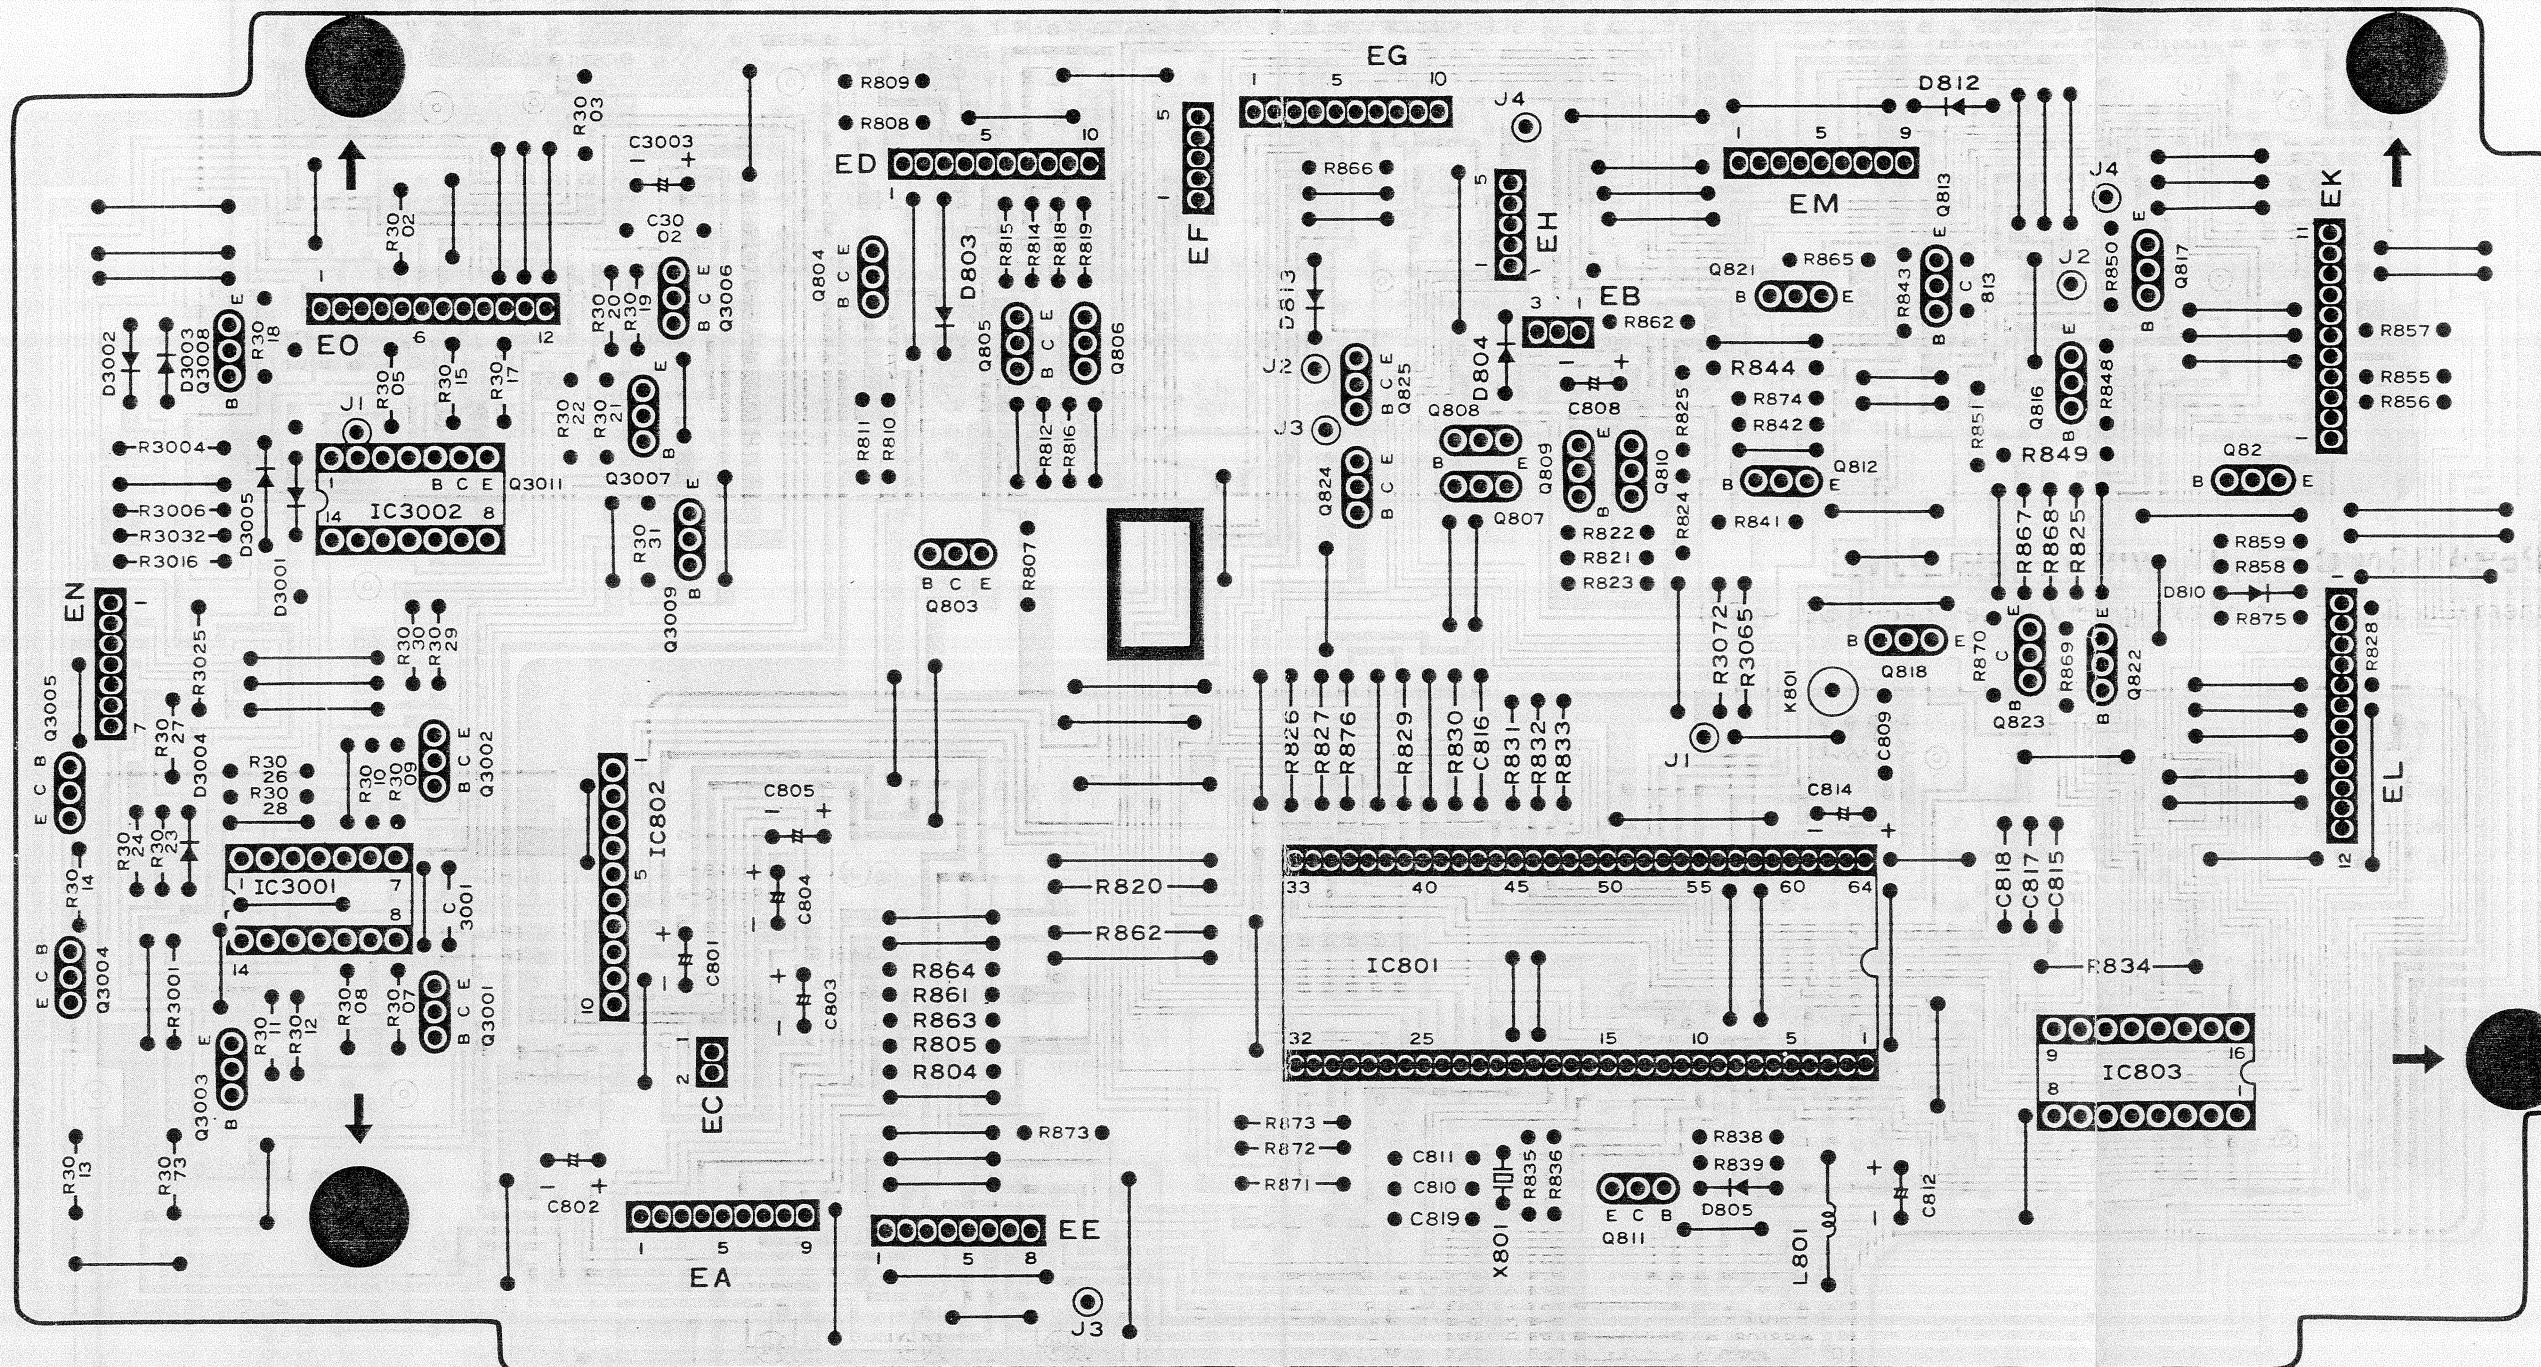

Figure 86.
**NOTE:** For wiring side PWB, refer to Figure 86. (see pages 71 ~ 72)